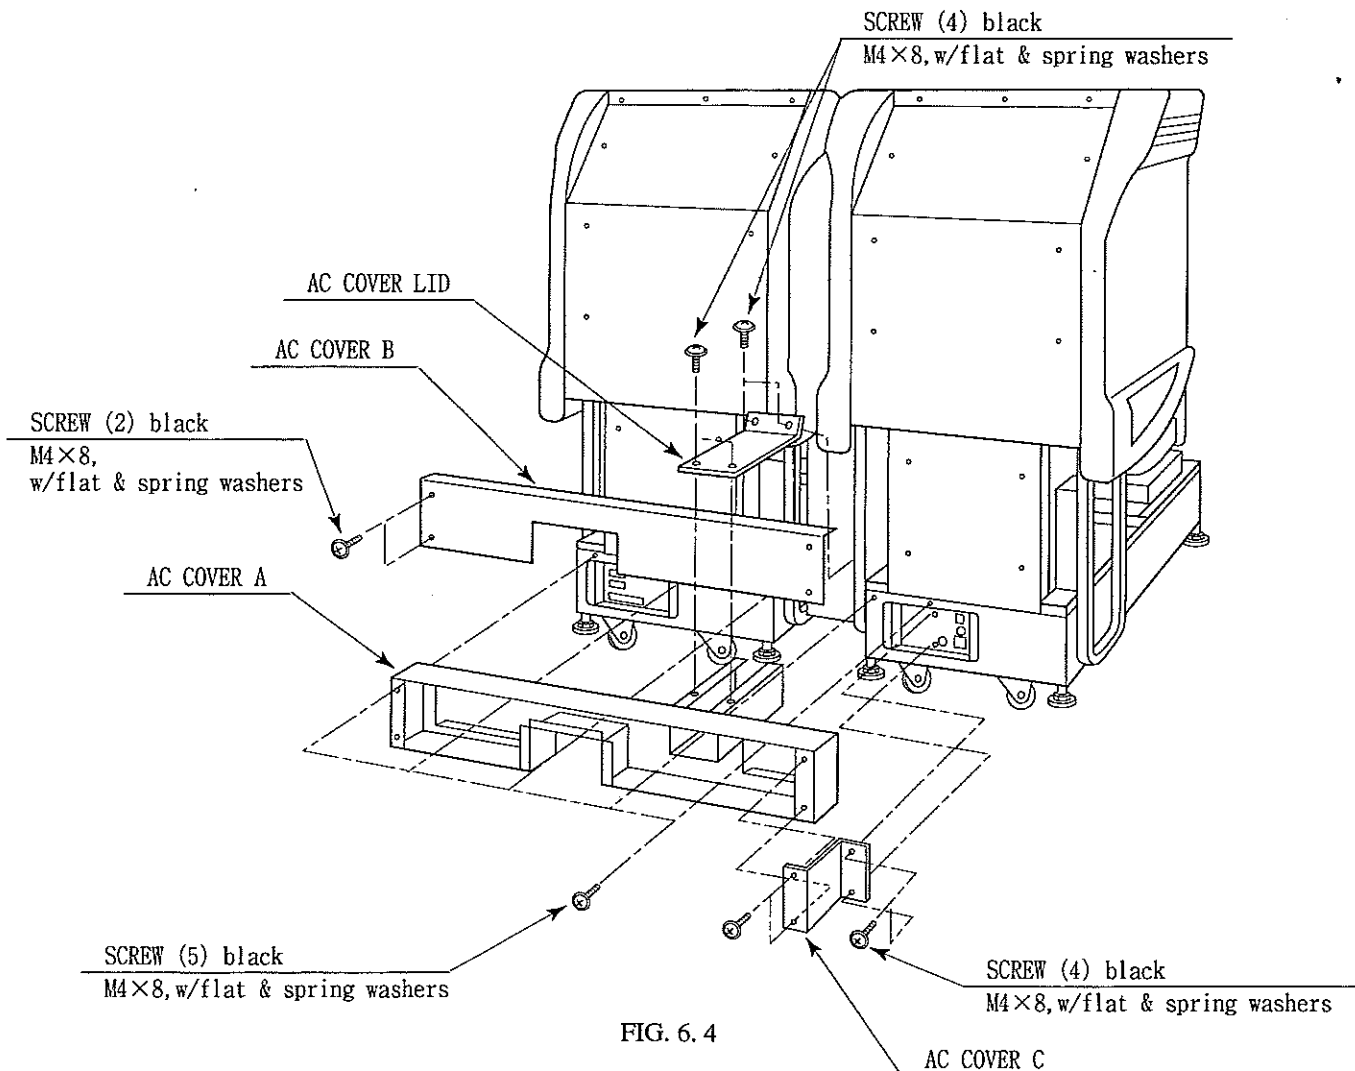

FIG. 6.4
- ① Attach AC COVER A to the back of the cabinet (Fig. 6.4) by securing with 5 screws.
- ② Make wiring connections between both cabinets & the coin chute tower. Insert the supplied wiring connectors to the corresponding ones which have an identical color and the same number of pins.
- ③ Insert the optic fiber cables to the optic fiber connectors in a manner as applicable. There are "TX" and "RX" connectors. Make sure to connect the "TX" connector of one cabinet to the "RX" connector of the other cabinet (see Sec. 20).
- ④ Secure the wiring and optic fiber cable with cord clamps in AC COVER A.
- ⑤ Install AC COVER B. Insert AC COVER B to AC COVER A from above and secure with 4 screws.
- ⑥ Secure AC Cover C & AC Cover Lid with 4 screws for each.